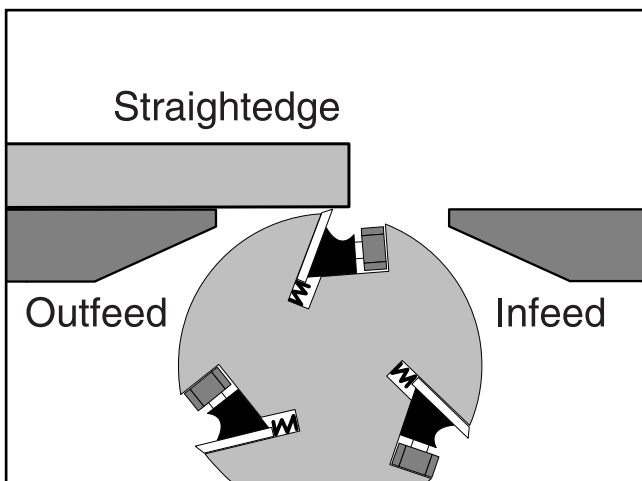

Figure 31. Outfeed table check.
4. If the outfeed table is set correctly, the straightedge will lay across the table and barely touch the knife when it is at top dead center (see illustration in **Figure 31**). Verify that the outfeed table height reflects this condition.